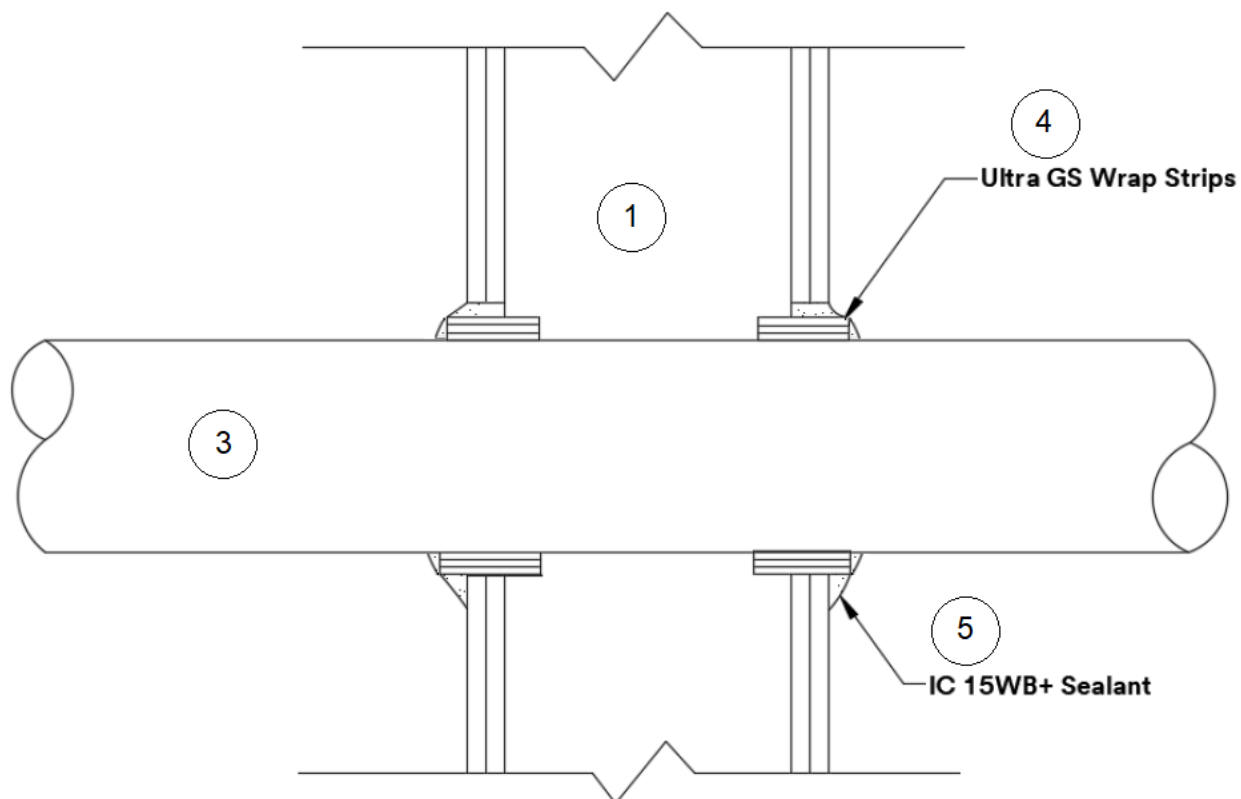

Figure 1. Firestop Detail
2. THROUGH-OPENING: Refer to Figure 1. Create a 4 in. diameter through opening in the supporting construction (Item 1).